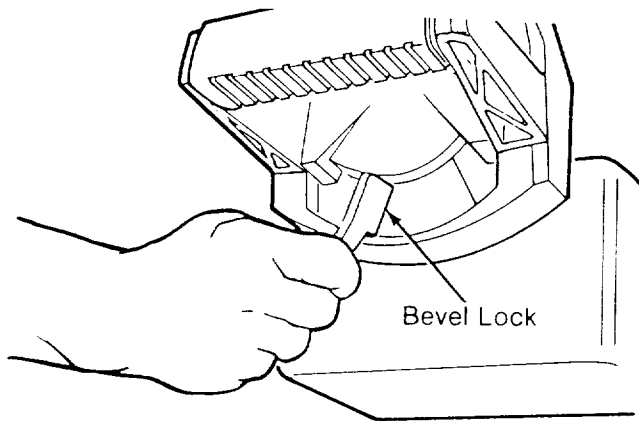

Fig. 154 - Bevel Lock - Locked
2. Position the motor at approximately 30° bevel angle and lock *bevel lock*. (Figure 154)